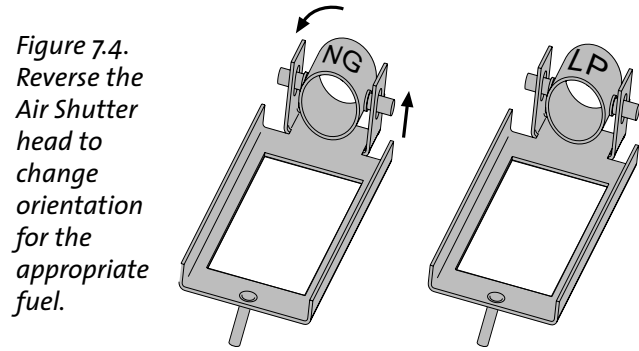

Figure 7.4. Reverse the Air Shutter head to change orientation for the appropriate fuel.
7. Reverse the Air Shutter orientation to indicate the appropriate fuel. Fig. 7.4.